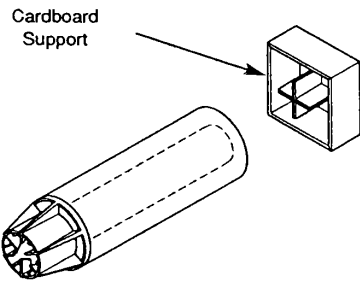

Fig. 23
3. The cardboard support should be installed onto the flue tubes to ensure the assembly is supported during cutting (Fig. 23 & 24).